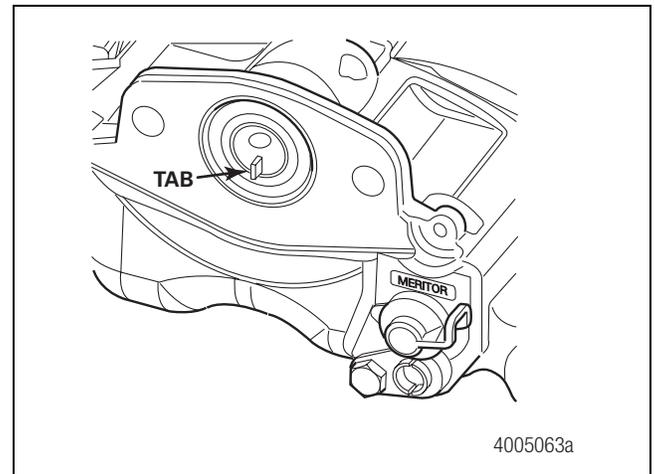
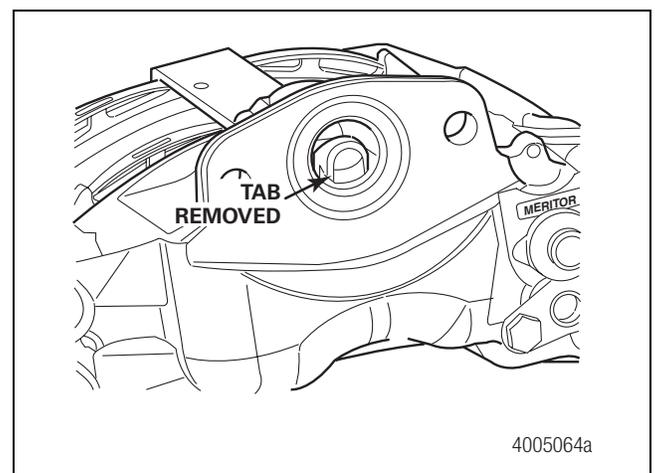

Figure 7.6
Figure 7.7
3. Before you install the air chamber onto the caliper assembly, ensure the perforated transit plug is removed from the caliper chamber seal by pulling the tab. Figure 7.6 and Figure 7.7.